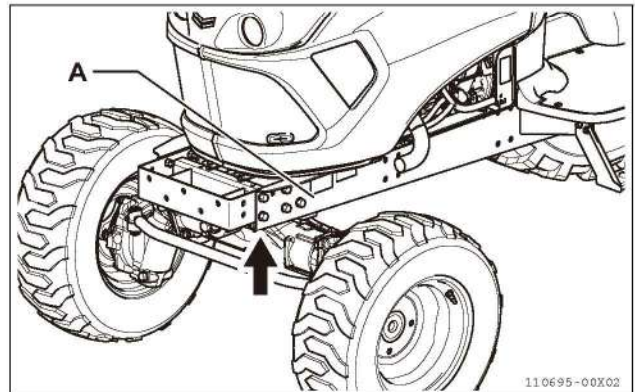

Fig 12-4
2. Jack up the front end of tractor. Firmly support the front axle bracket (Fig 12-4, A) of the tractor front end by hoist or jack, then set the rigid stands under the front axle bracket (Fig 12-4, A).